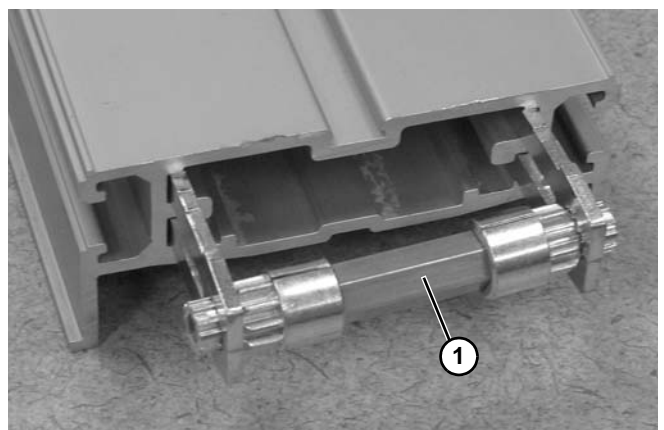

Figure 102
7. Insert pinion assembly (**Figure 102, item 1**) into conveyor frame.